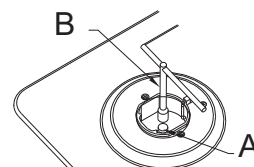

Fig. 6
- Replace the injectors with the corresponding injector from the table on page below. (see fig. 6).
First remove the burner caps and rings and with a socket spanner "B", unscrew Injector "A" (see fig. 6).